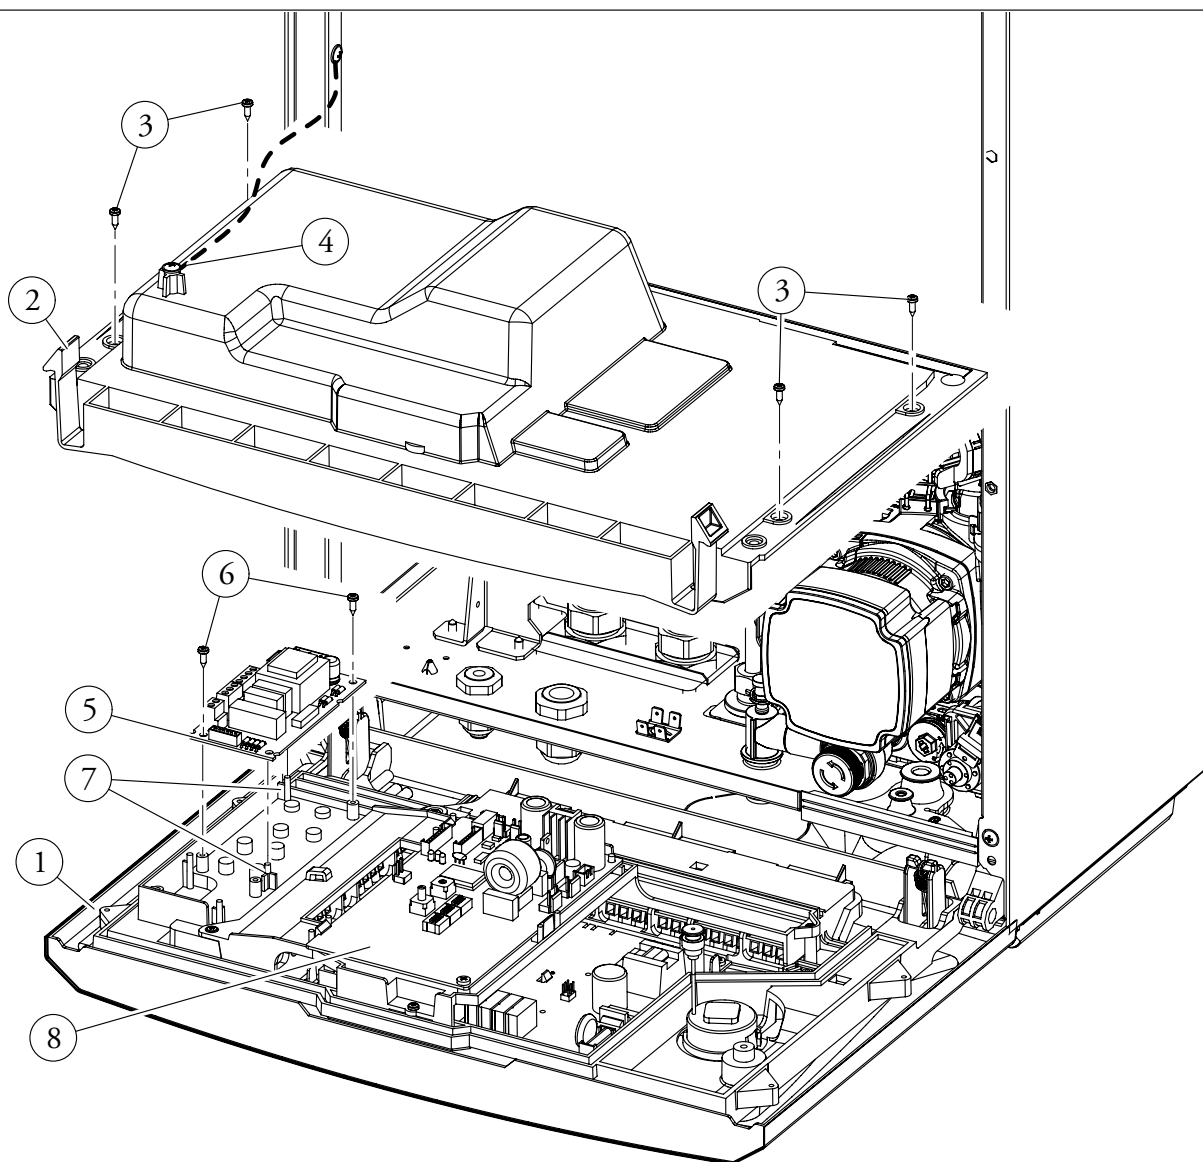

Fig. 5-1
- Assemble the relay board (5), positioning it on the pins (7) and fasten it with the two cross-head screws (6) (see Figure 5-1).
- Perform the electrical connections between the relay board (5) and the electronic adjustment card (8) using the two wires present inside the unit. Connect the external components according to requirements following the wiring diagrams given on the next pages.
- Close the control panel (1), re-mount the casing and re-apply the voltage to the appliance to take it back to normal functioning conditions.